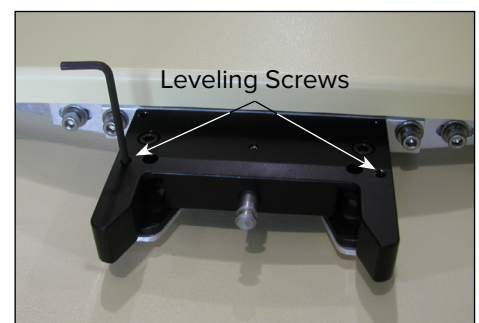

Fig. 14
- b. Then equally adjust the two leveling screws up or down with the $\frac{1}{8}$ " Allen wrench to change the tilt until level with the Alignment Pin and the CT cradle. Gently re-tighten the (2) Mounting Block Screws (DO NOT OVERTIGHTEN) (Go back to Step 3) (Fig. 14).